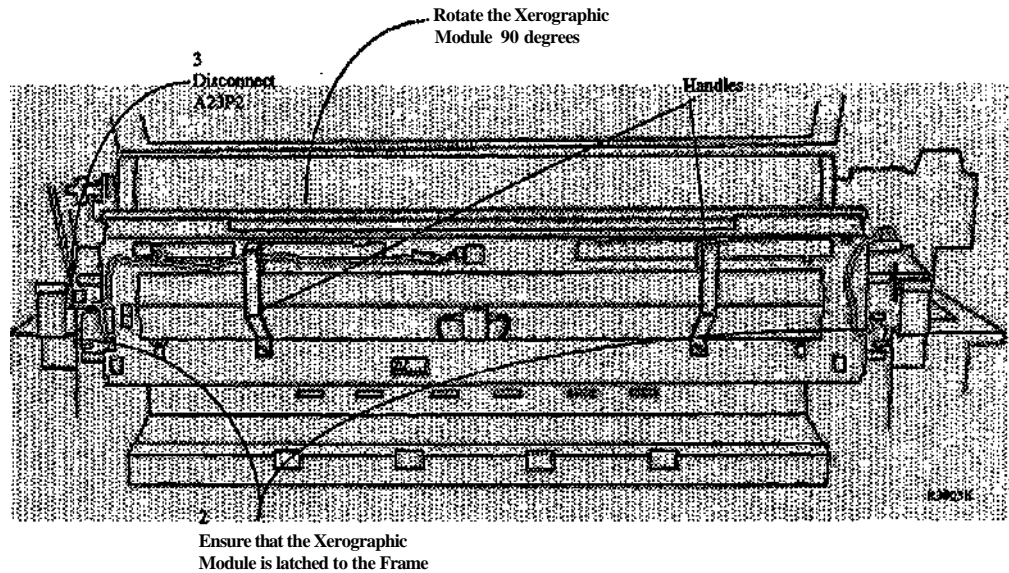

Figure 3. Latching the Xerographic Module at the Service Position
8. (Figure 3): Using the handles, rotate the Xerographic Module 90 degrees so that the latches lock into the holes in the frame.